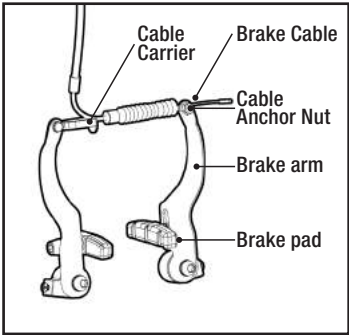

Figure 65
- Once the brake pads are properly positioned, loosen the cable anchor nut on the Brake Arm (See Figure 65). Firmly squeeze the brake pads against the rim of the tire, pull the cable taut, and re-tighten the cable anchor nut using either (C) a 4, 5, or 6 mm Allen Wrench or a pair of (E) Standard Slip Joint Pliers.)
- If the brake pads do not contact the rim at the same time, use (A) a Standard Phillips Head Screwdrivers to turn the Adjustment Screws on the Brake Arm until they contact the rim at the same time when pulling the brake lever.